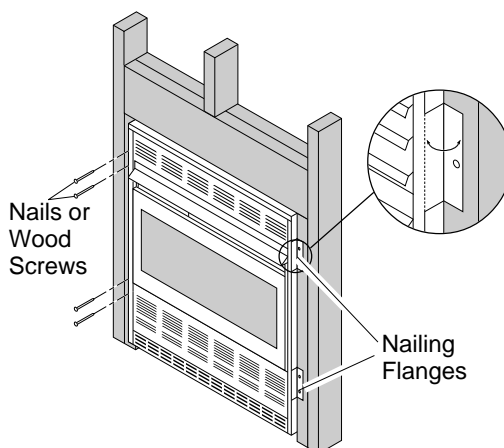

Figure 10 - Attaching Fireplace to Wall Studs
8. Bend four nailing flanges on outer casing with pliers (see Figure 10).